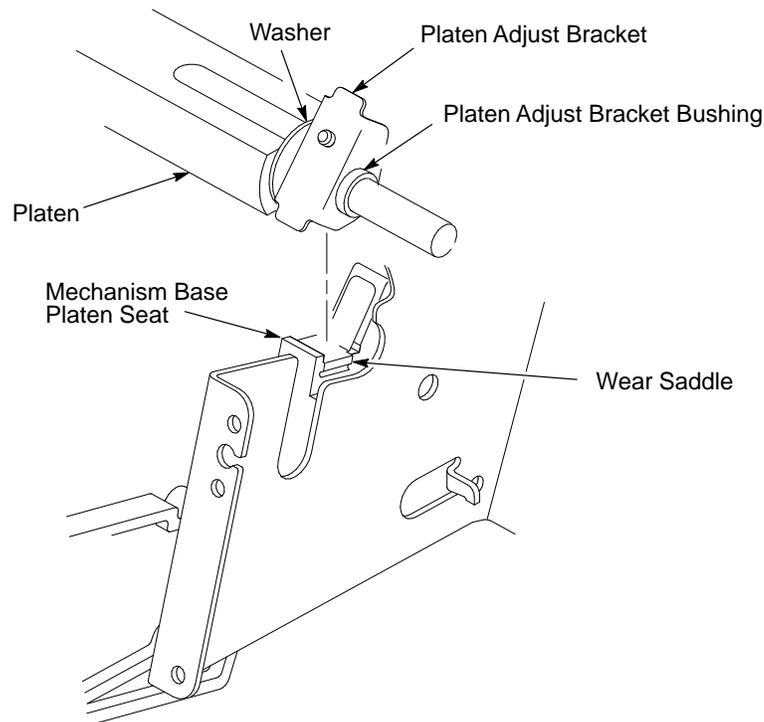

Figure 5–4. Alignment of Platen Adjust Bracket Bushing
10. Install the barrier shield and four screws (page 5–59, Figure 5–10).
4. Remove the platen open belt cover by squeezing the top and bottom to release the plastic tabs from the slots in the side plate (page 5–67, Figure 5–14).
5. Loosen the two 5/16 inch motor mount screws (page 5–69, Figure 5–15).
1. Position the platen open motor assembly with the wires toward the rear (page 5–69, Figure 5–15).
4. Remove two screws and washers securing the ribbon drive motor to the base casting (page 5–61, Figure 5–11).
NOTE: The ribbon drive motor should be secured at the front right and rear left corners. (See Figure 5–15, page 5–69.)
4. Remove the three 1/4 inch screws securing the paper ironer bracket assembly and remove the assembly. (See Figure 5–14, page 5–67, items 4 through 6.)
6. Remove the platen pulley (page 5–67, Figure 5–14, item 21):
7. Pull the spring link and white plastic bushing off the platen shaft and remove the spring link, bushing, and spring. (See Figure 5–14, page 5–67, items 16, 17, and 18.)
8. Remove the forms thickness lever by loosening the 7/64 inch clamp screw and pulling the lever off the platen shaft. (See Figure 5–14, page 5–67, item 15.)
10. Remove the Phillips #1 screw and washer securing the forms thickness indicator plate from the inside of the right side bracket. (See Figure 5–14, page 5–67, items 9 and 10.)
12. Remove the two 7/32 inch screws and washers securing the right ribbon guide assembly to the side plate. (See Figure 5–15, page 5–69, item 12, 14, and 15.)
9. Insert the shorter platen shaft through the bushing and bracket and through the opening in the left side plate. Rotate the longer shaft into the opening in the right side plate and position the adjustment brackets with the bushings as shown in Figure 5–4.
10. Slide the right ribbon guide assembly into the side plate and install the two 7/32 inch screws and washers. (See Figure 5–15, page 5–69, item 12, 14, and 15.)
12. Install the black metal washer onto the left side of the platen shaft. (See Figure 5–14, page 5–67, item 26.)
13. Apply bearing lubricant to the nylon bearings in the two spring links, slide the spring links onto the two platen shafts, and connect the springs to the spring hooks in the side plates. (See Figure 5–14 page 5–67, items 16, 17, and 18.)
15. Install the paper ironer bracket. (See Figure 5–3):
For the right side of the platen, the washer goes to the left of the paper ironer hook and the hook goes to the left of the right platen adjustment bracket. (See Figure 5–3.)
17. Install the forms thickness lever onto the right side platen shaft, pressing the interlock switch out of the way as the lever slides past it. Tighten the 7/64 inch setscrew. (See Figure 5–14, page 5–67.) Open and close the forms thickness lever to make sure the setscrew does not touch the right ribbon guide.
NOTE: The right ribbon guide is shown in Figure 5–15. The removal/installation procedure is the same for both ribbon guides.
3. Cut and remove the tie-wrap from the tie wrap hole to free the ribbon guide cable (page 5–69, Figure 5–15).
3. Loosen the #2 Phillips screw in the ribbon spool hub (page 5–69, Figure 5–15).
1. Install the ribbon spool hub over the motor shaft (page 5–61, Figure 5–11).
3. Remove the 1/4 inch screw securing the ground clip, and remove the clip (page 5–65, Figure 5–13, items 10 and 11).
4. With grip ring pliers, remove the grip ring from left side of the splined shaft (page 5–65, Figure 5–13, item 6).
5. Pull the bearing and spring link with the spring off the left side of the splined shaft (page 5–65, Figure 5–13, items 7, 8, and 9).
7. Remove the 1/4 inch screw securing the bearing clamp on the right side of the splined shaft, and remove the clamp (page 5–65, Figure 5–13, items 13 and 14).